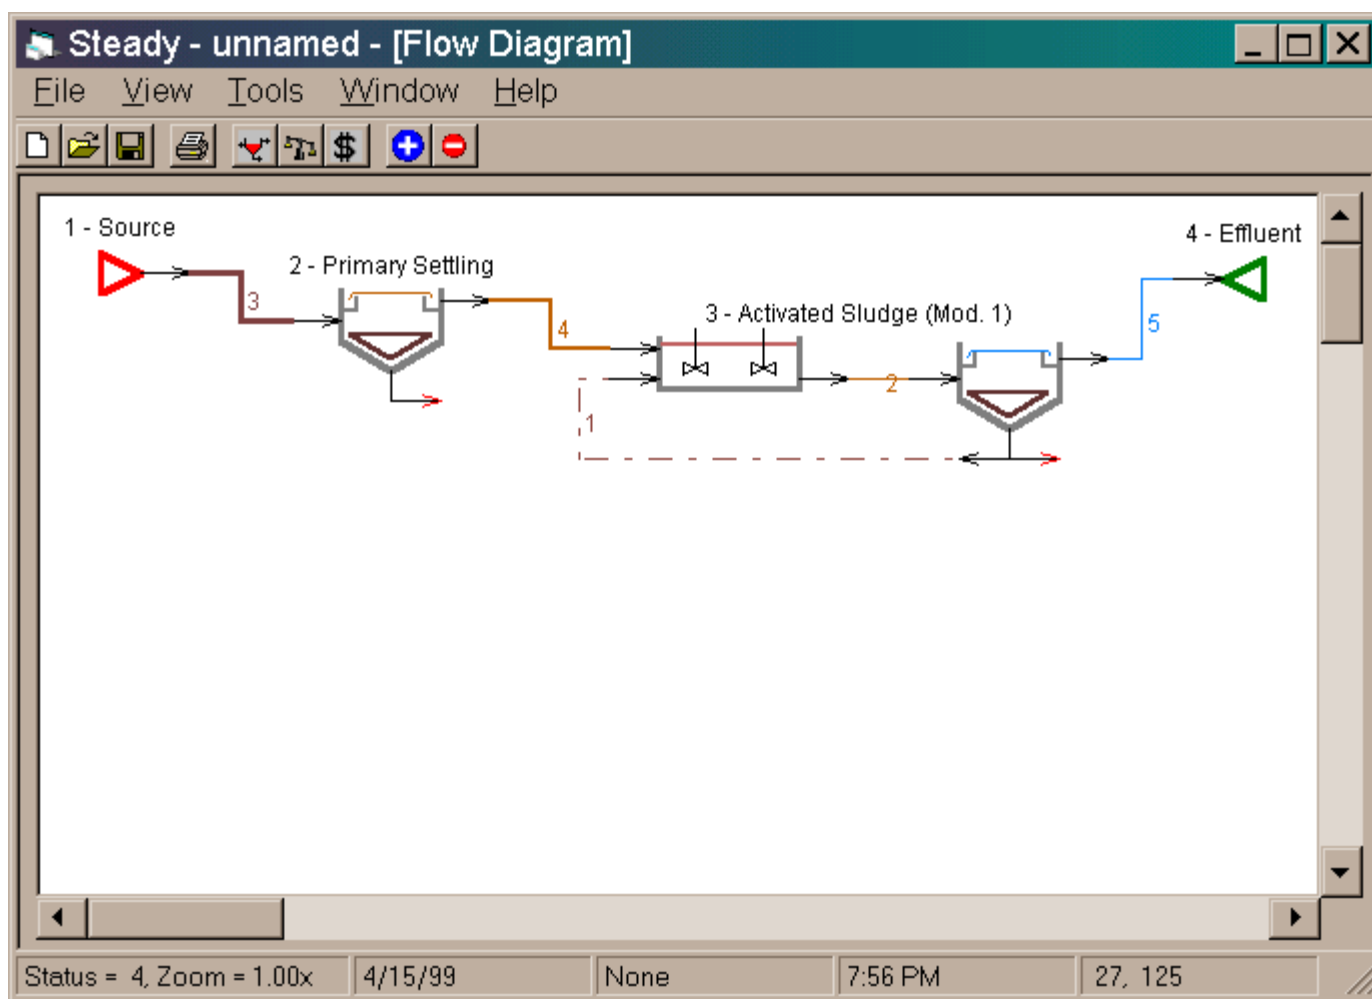

Figure 4 - Connecting Reactors with Streams
9. Next connect the overflow from the primary settling tank to the inlet to the aeration tank of the activated sludge system, and the overflow from the secondary clarifier to the inlet of the effluent. Your diagram should now look like Figure 4.